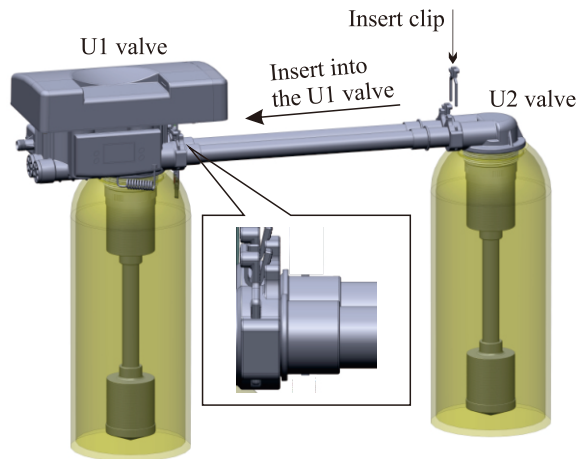

Figure2-2-4
4. As Figure 2-2-4 shows, insert the connecting pipe to the U1 valve, and then insert the clips of U1 valve and U2 valve to fix the connecting pipe (**if the reserved gap in Step 3 is not 8.2mm, the clips of U2 valve couldn't be inserted!**).